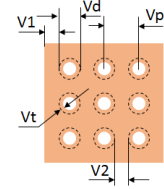

Figure 4.4
- (4) The minimum drilling diameter of the vias (**Vd** in Figure 4.4) is 0.2mm, the diameter can be 0.2mm, 0.25mm, 0.3mm, 0.33mm, etc., recommend 0.3mm.
- (5) The minimum distance between the drilling edges of vias (**V2** in Figure 4.4) is 0.2mm.
- (6) The minimum distance between the drilling edge of a via and the edge of the thermal pad (**V1** in Figure 4.4) can be 0.1mm, but recommend 0.2mm.
- (7) The plating thickness (copper) of the vias (**Vt**) is 0.025mm (1mil) typical, can increase to 0.050mm (2mils).
- (8) The terminal pads can be larger than those shown in the Figures, the guidelines are also valid to the larger terminal pads, and vias can be designed on bigger terminal pads as well.
- (9) For vias with drilling diameters less than or equal to 0.3mm, it is normally not necessary to cover the vias with solder mask, since solder mask may cause excessive solder voiding.
- (10) If the via drilling diameters are more than 0.3mm, solder masking may be required to prevent solder wicking inside the vias during reflow, the methods include via tenting (from top or bottom) using dry film solder mask, via plugging (completely or partially) with conductive or non-conductive via fill materials, etc., depending on power level and/or application. These methods will of course increase PCB cost.